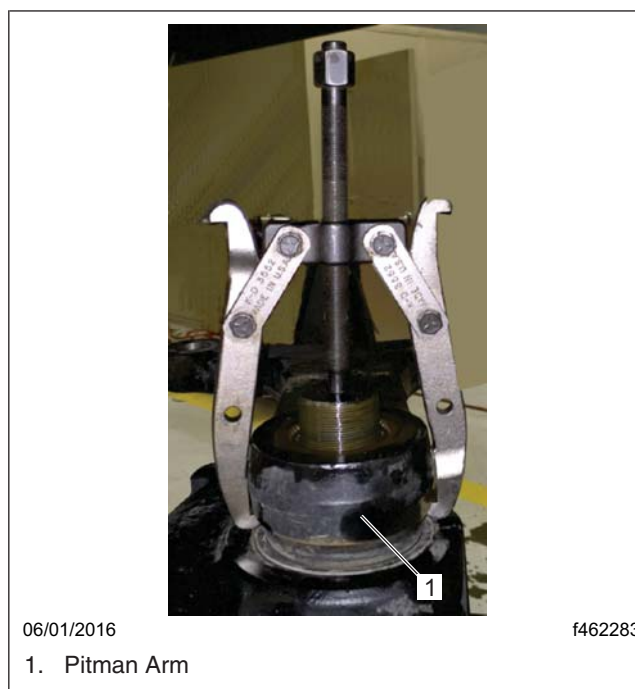

Fig. 11, Removing the Pitman Arm with a Two-Arm Puller
- 7.2 Using a two-arm puller, remove the pitman arm from the box. See Fig. 11. If necessary, hit it with a steel hammer to loosen and break free.